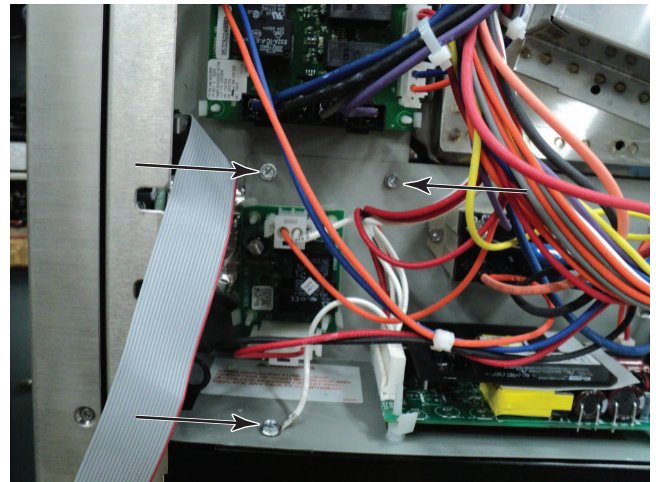

Figure 12
12. Remove three component bracket mounting screws (Figure 12).